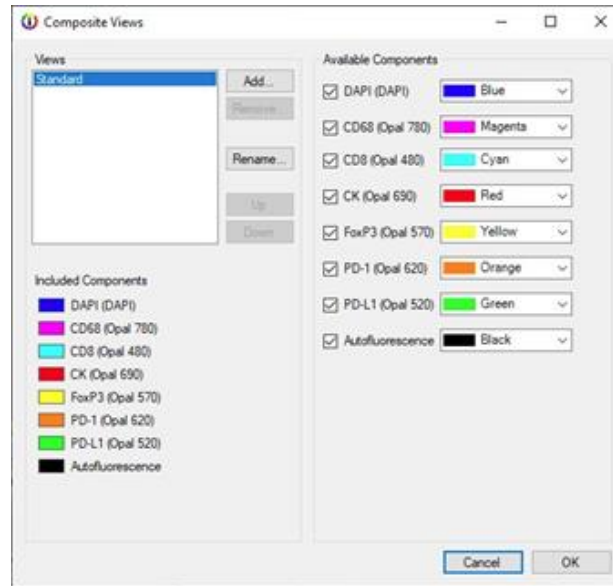

FIGURE 17.13. Composite Views dialog box.
1. Click the Composite button, and then on the drop-down list that opens, click Edit. The Composite Views dialog box opens. (See Figure 17.13.)